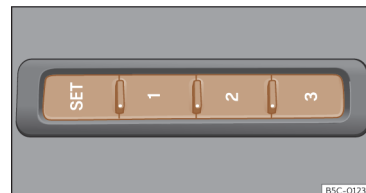

Fig. 89 On the outer side of the driver's seat: memory buttons.
- Press **SET** for longer than 1 second >>> **Fig. 89.**